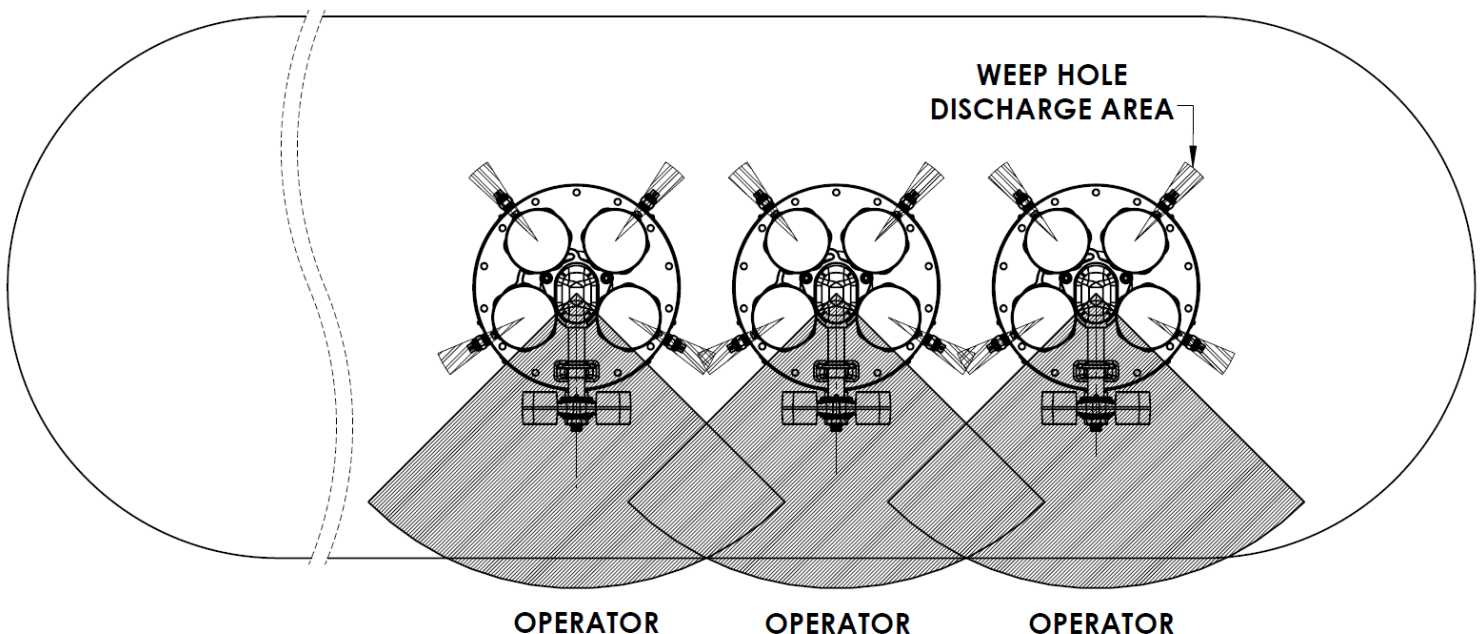

FIGURE 1: MANIFOLD OREINTATION
2. Install relief valve of proper size and rating according to instructions provided with the valve. **WARNING:** Valve must be installed with weep hole oriented away from operator, from all other valves, manifolds, and other pressure containing piping and systems, see figure 1.